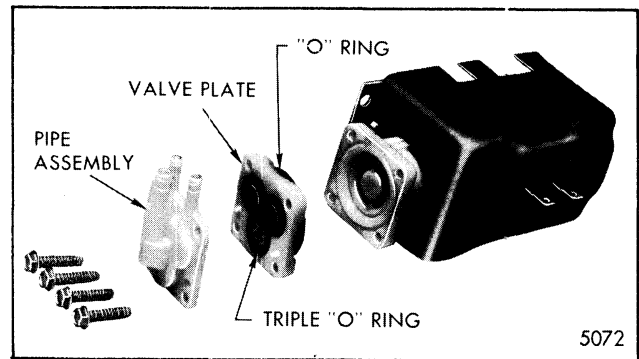

Fig. 2-66-Valve Assembly
1. Disconnect ratchet pawl spring (see Fig. 2-66 for proper location of spring).
1. Remove the four (4) screws that attach the valve assembly to the pump housing.
**NOTE:** During reassembly be sure gasket between housing and valve plate is properly positioned in the housing and valve plate grooves. Also be sure triple O ring (Fig. 2-66) is properly installed between valve body and pipe assembly.